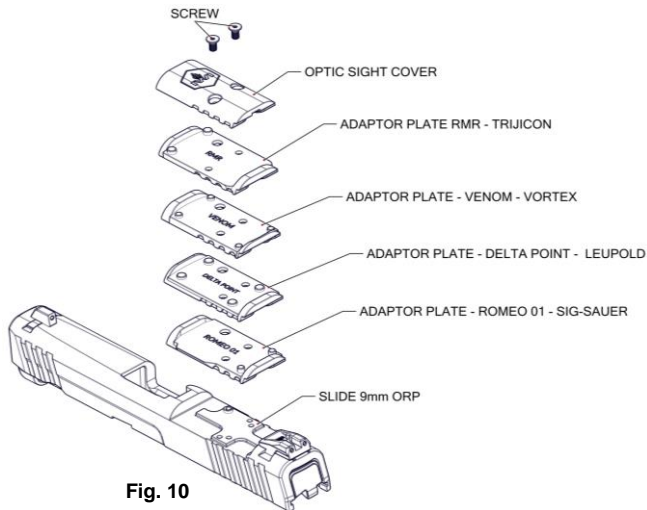

Fig. 10
2. Choose an Adaptor Plate from the list. Place it on the ORP Slide (Fig. 10).